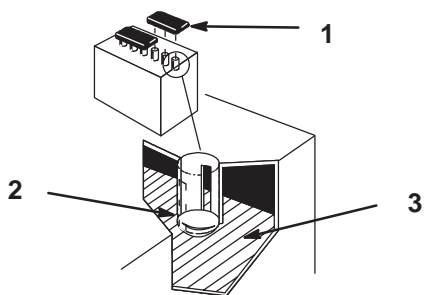

Figure 28
2. Remove the filler caps. If the electrolyte is not up to the lower part of the tube (Fig. 28), add the required amount of distilled water; refer to Adding Water to the Battery on page 30.
2. Remove the filler caps (Fig. 28).
3. Slowly pour distilled water into each battery cell until the level is up to the lower part of the tube (Fig. 28).